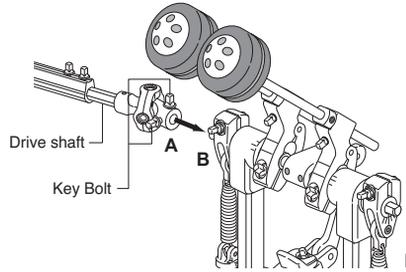

Fig. 13
Connect the ends of the Drive shaft (A) to the short extensions (B) on the Main and Slave side Pedals and tighten the Key Bolts (Fig.13 , 14).